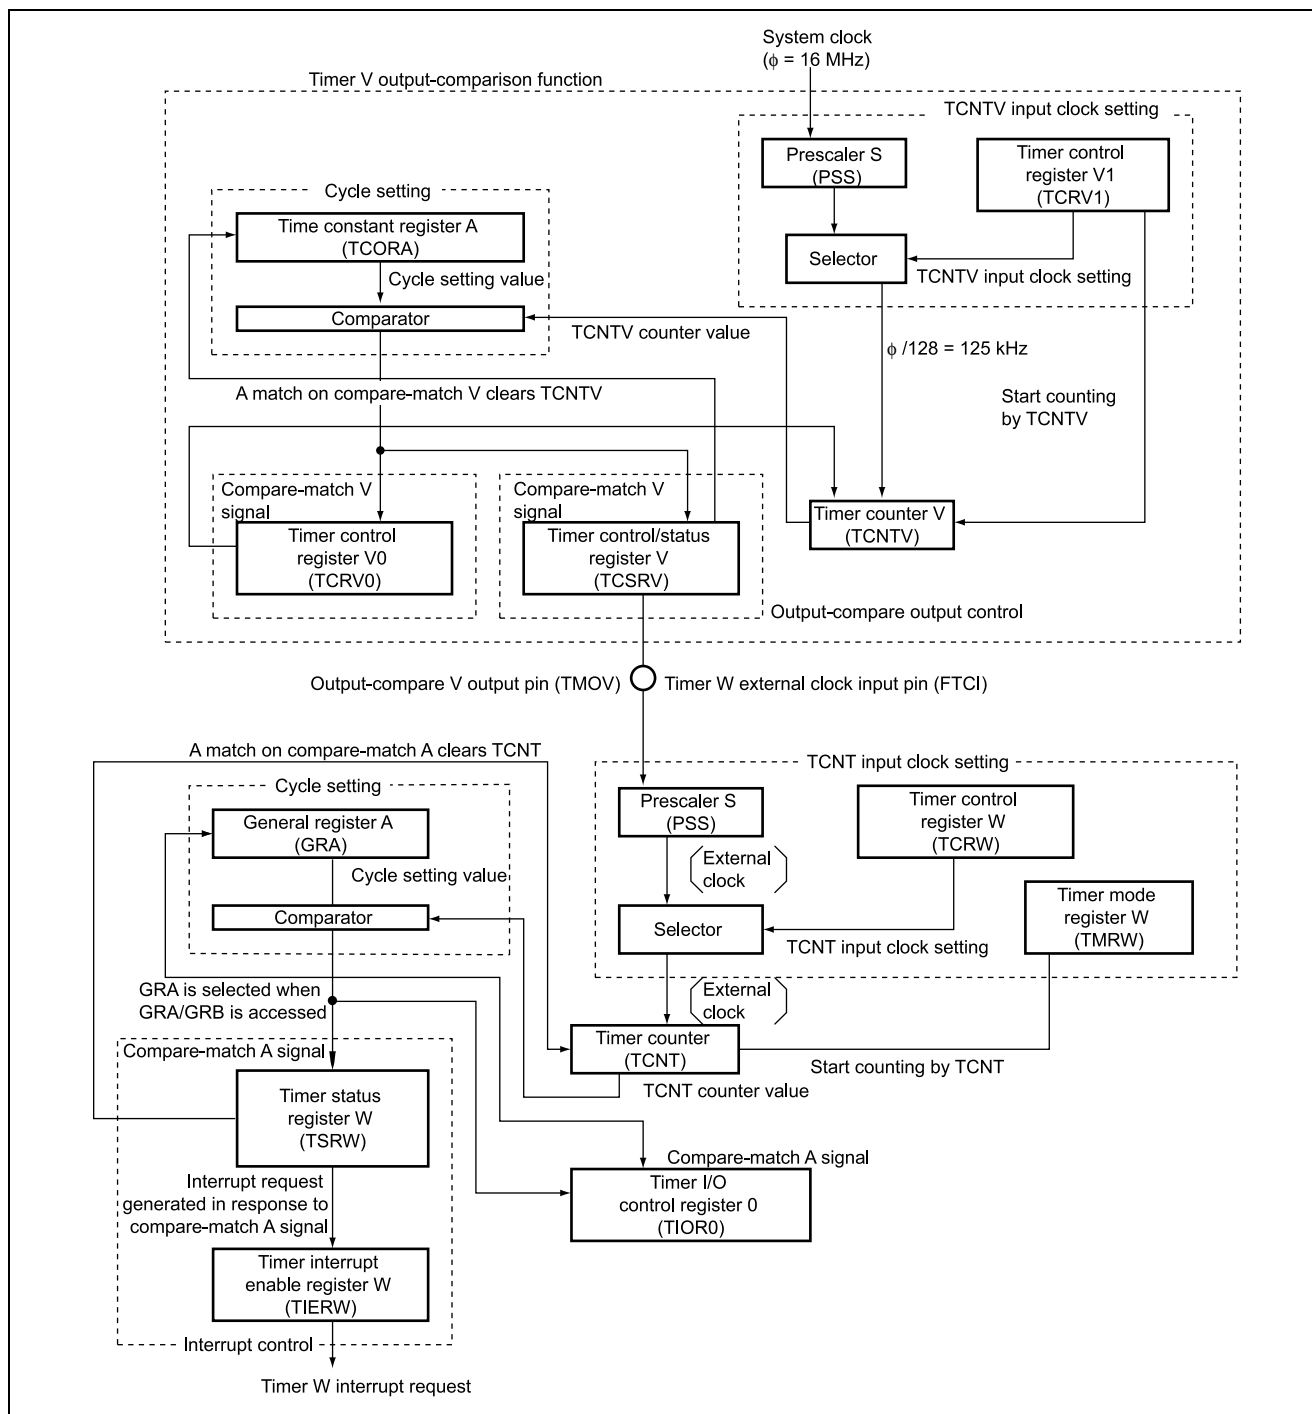

Figure 2.1 The Output-Comparison Functions of Timers V and W
1. In this sample task, the 8-bit timer V and 16-bit timer W are used together to form a 24-bit timer. Figure 2.1 is a block diagram of the timers used in this sample application. The following is a description of the items in the diagram.